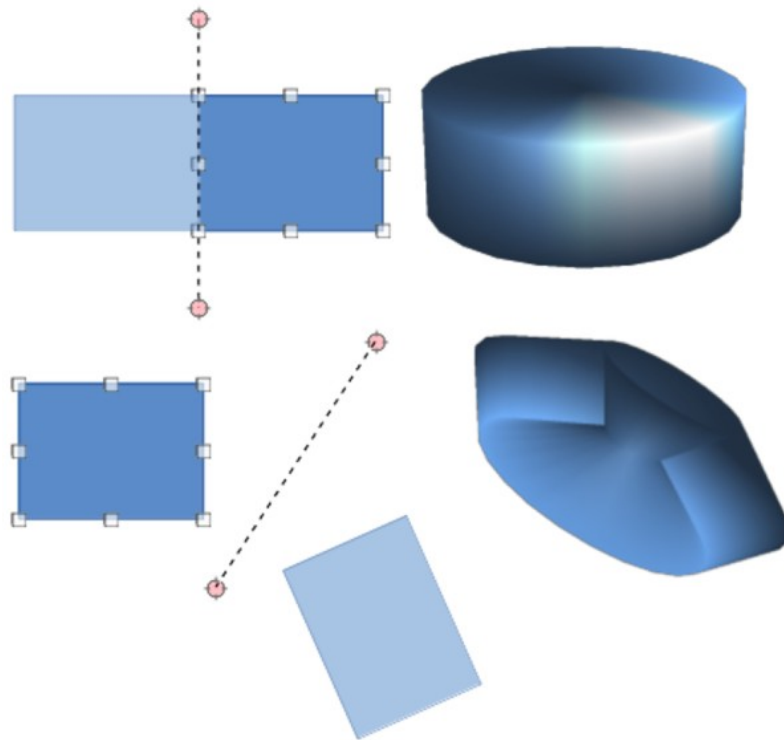

Figure 8: Example of moving rotation axis using In 3D Rotation Object
In 3D Rotation Object converts a 2D object into a 3D scene by rotating the object through a movable axis of rotation. An example of moving the rotation axis and changing the rotation angle is shown in Figure 8. The actual 3D scene created also depends on the angle and shape of the object being rotated.
- 4) Click anywhere outside the 2D object and it is converted into a 3D scene, as shown in Figure 8.